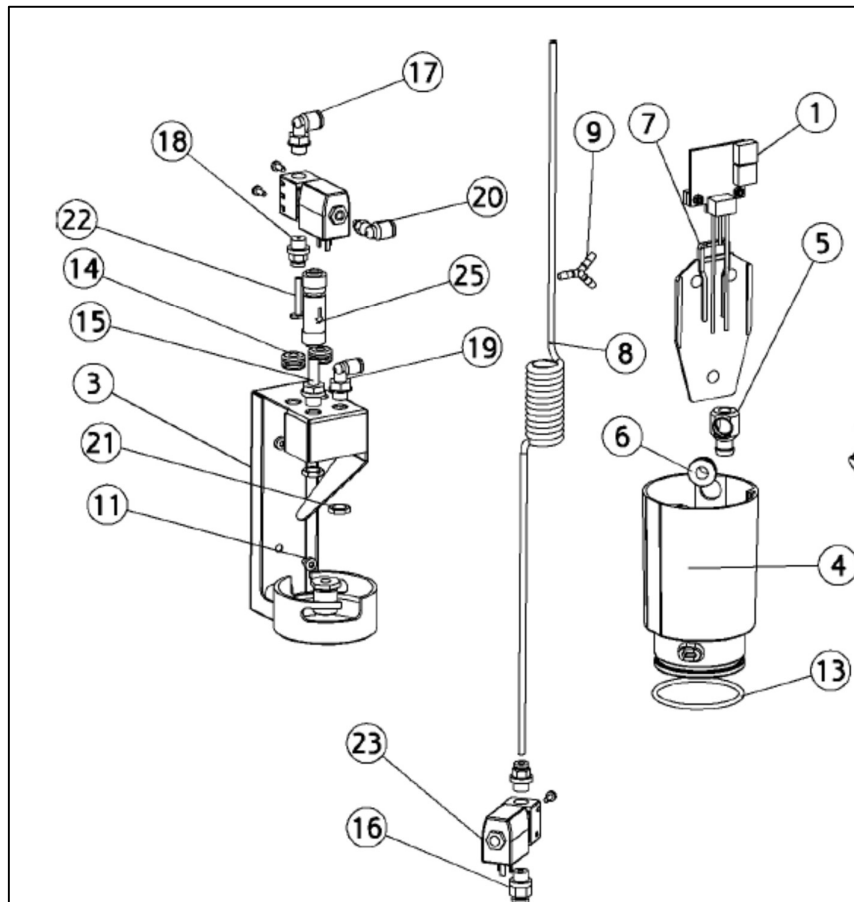

Figure 2 – Suction disinfection
<input type="checkbox"/>	Replace the mixing cup (MG-364) see (4) in Figure 2.
<input type="checkbox"/>	Re-use the overflow nozzle – see (5) and (6) in Figure 2.
<input type="checkbox"/>	Replace the separation wall (MG-767) – see (7) in Figure 2.
<input type="checkbox"/>	Replace the O-ring (UH-246) and grease it with Paraliq – see (13) in Figure 2.